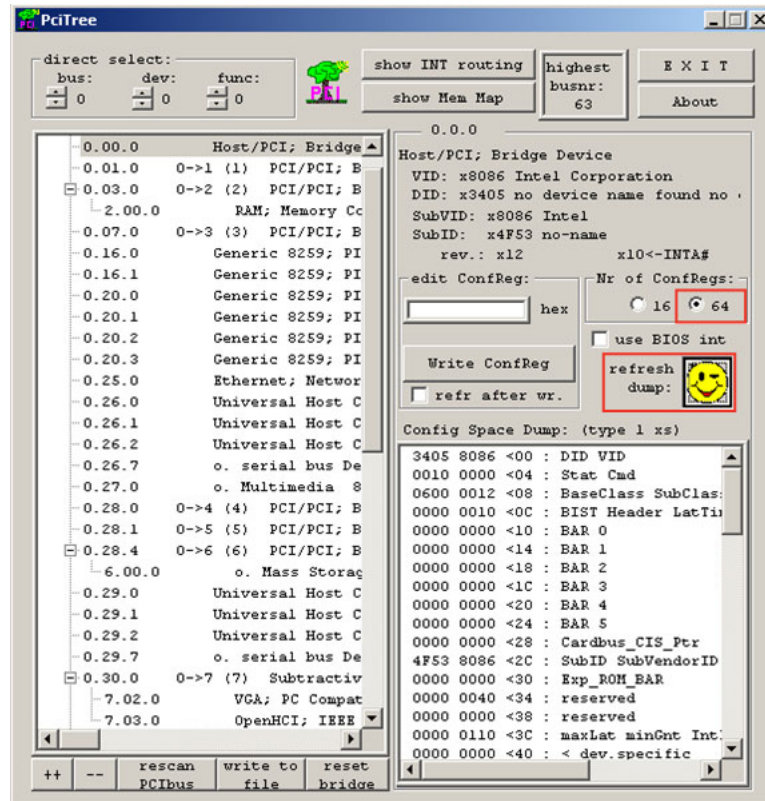

Figure 1-31: Set Configuration Registers
12. Set the number of configuration registers to 64 (as shown in Figure 1-31) and click on the **refresh dump** button.